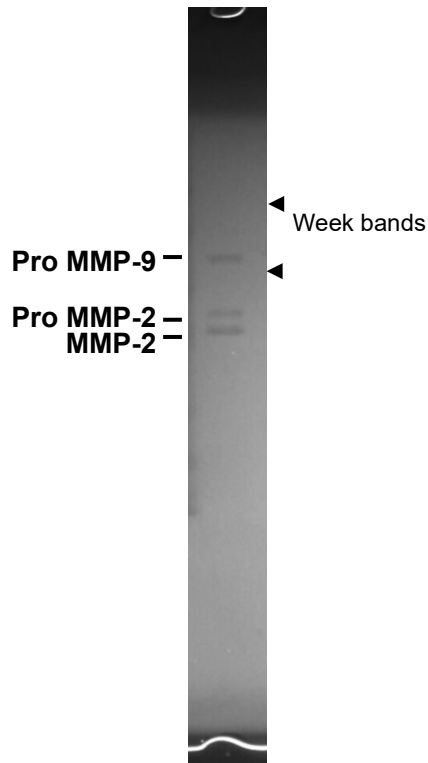

Fig 1. Electrophoresis pattern of MMP marker
4. Apply samples and MMP markers to gel plate. (Fig.1: 10 μ L of MMP markers applied and enzymatic reacted for 24 hrs at 37°C).